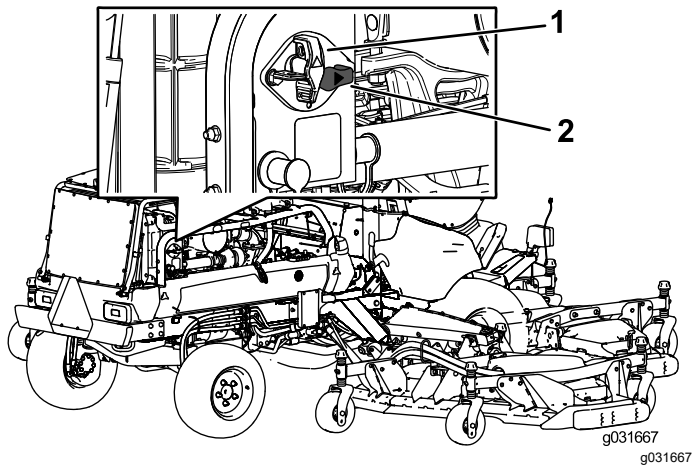

Figure 74
- To energize the machine electrically, rotate the battery-disconnect switch clockwise to the ON position (Figure 74).
- To de-energize the machine electrically, rotate the battery-disconnect switch counterclockwise to the OFF position (Figure 74).